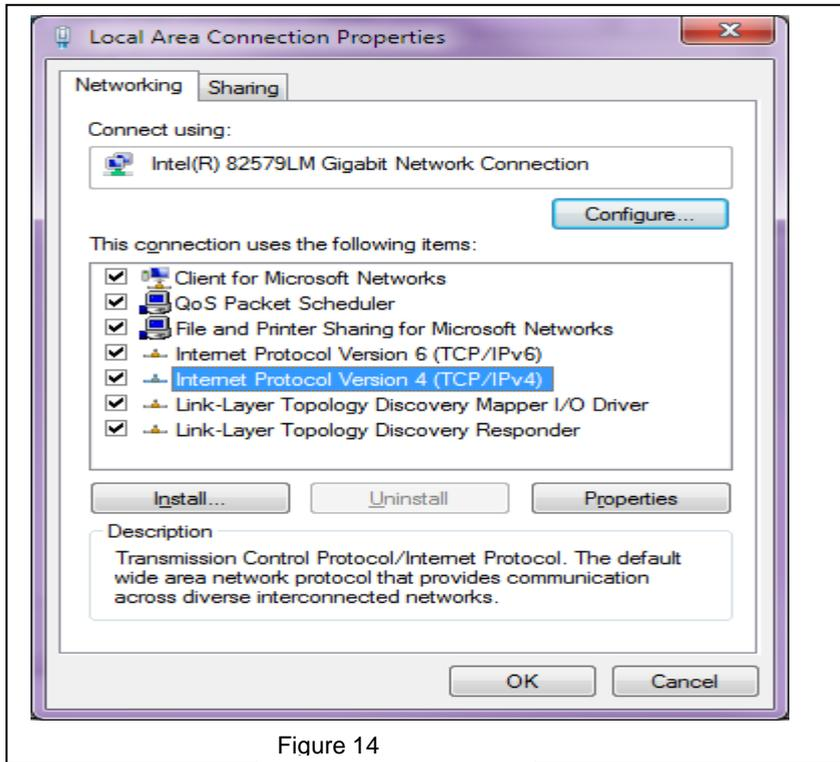

Figure 14
13.6 Then click Properties to enter new window as Figure 14.